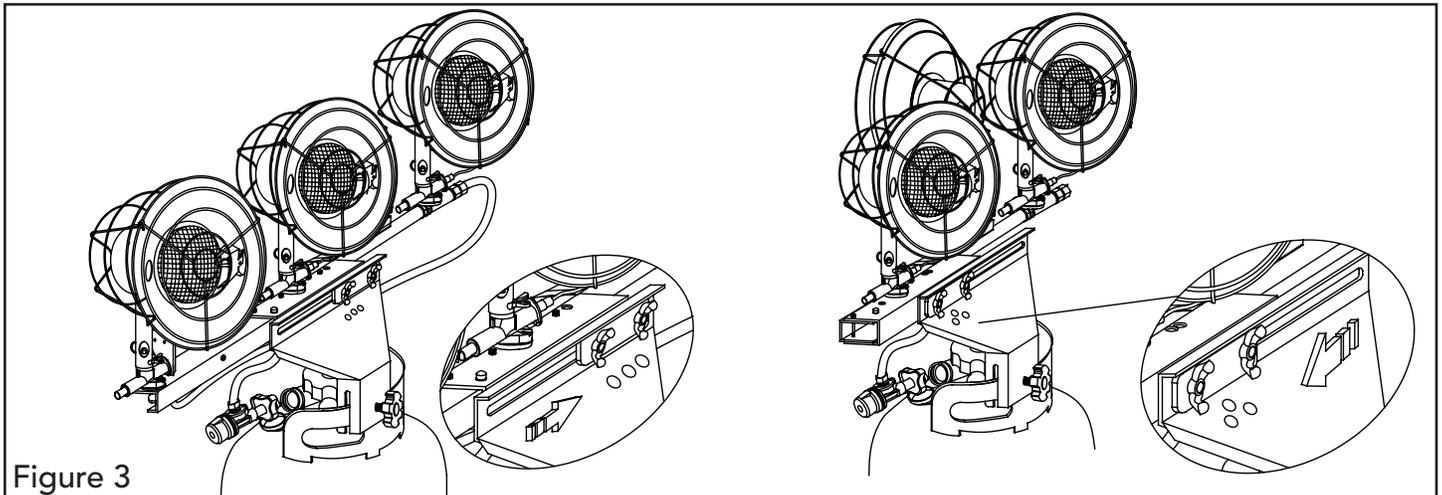

Figure 3
4. See Figure 3 on page 9 for determining burner position options.
- To have all 3 burners face front, the plane washer should be to the right side of tank collar bracket (see Figure 3).
- To have far left burner face back, the plane washer should be to the left side of tank collar bracket (see Figure 3).